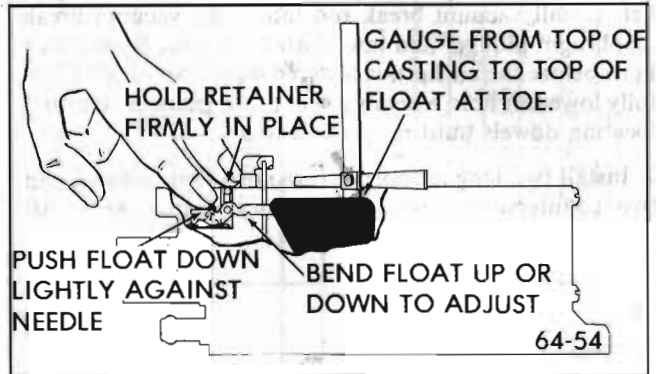

Figure 64-54 - Float Level Adjustment
- a. With adjustable T-scale measure from top of float bowl gasket surface (gasket removed) to top of float at toe (locate gaging point 1/16" back from radius at toe). See Figure 64-54.